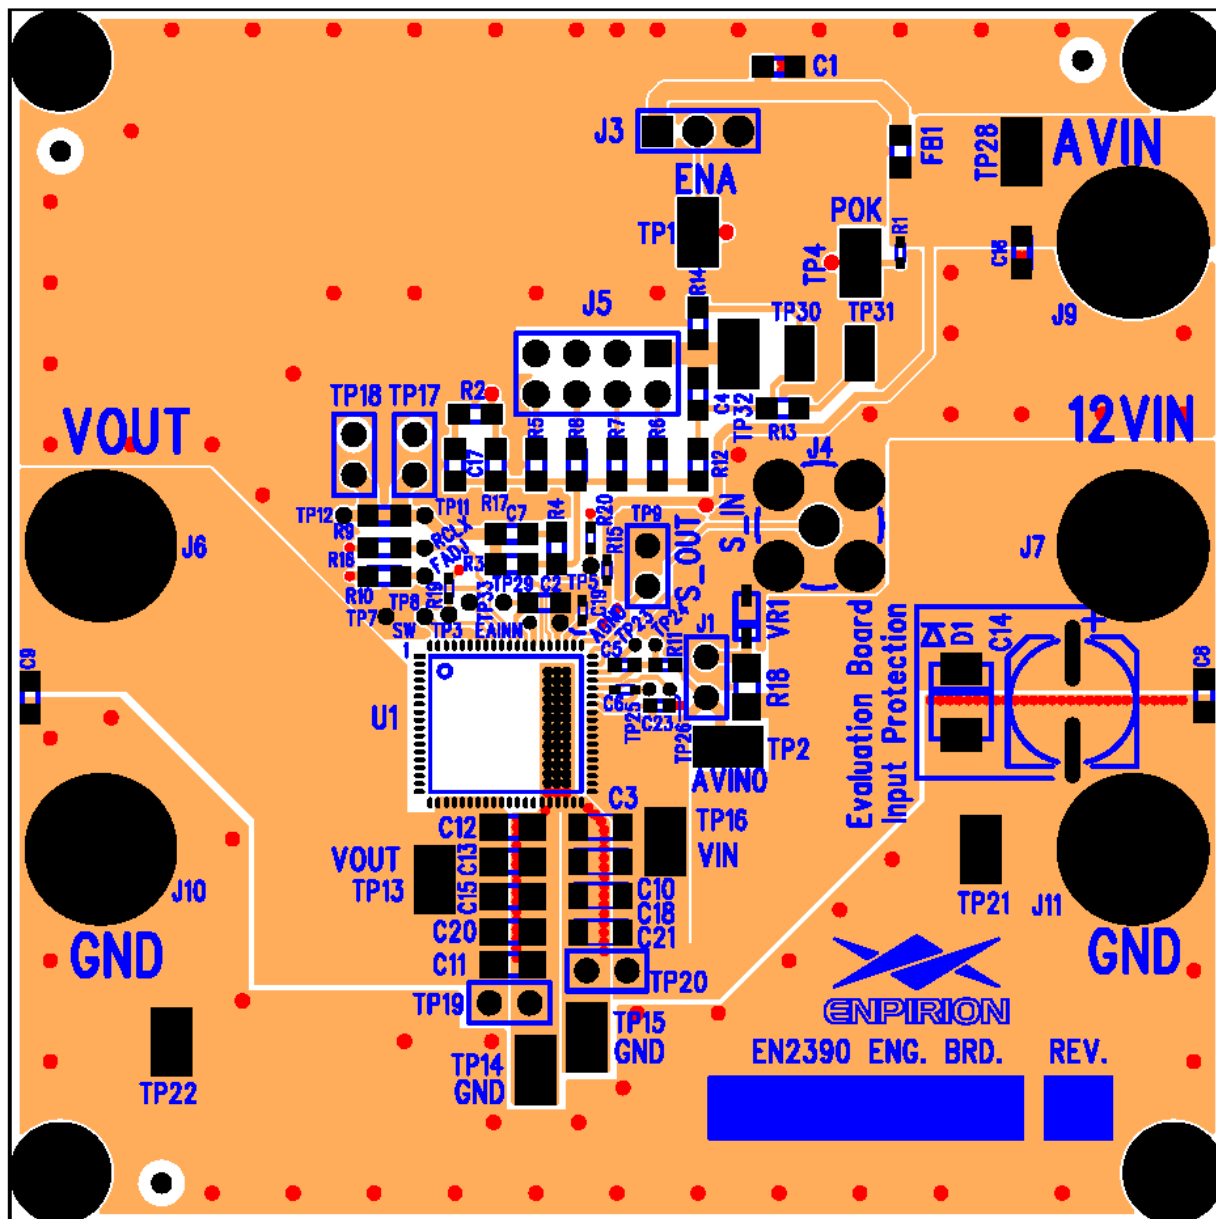

Figure 4: Evaluation Board Top and Assembly Layers.
STEP 2: With power off, connect the 12V nominal Power Supply to the input power connectors, 12VIN (J7) and GND (J11) as indicated in Figure 4.
STEP 4: Connect the load to the output connectors VOUT (J6) and GND (J10), as indicated in Figure 4.
Please note: The loop compensation circuit for this version of evaluation board has been chosen for a wide range of PVIN and VOUT values using output capacitors for best performance. In order to optimize the loop for any specific PVIN/VOUT operating point, please see the compensation table in the datasheet. See Figures 4 and 5.